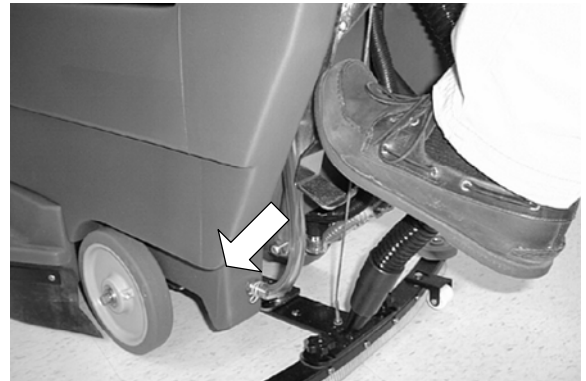

FIG. 5
2. Lower brush head. Step down firmly on top pedal and push pedal forward to lower (Figure 5).